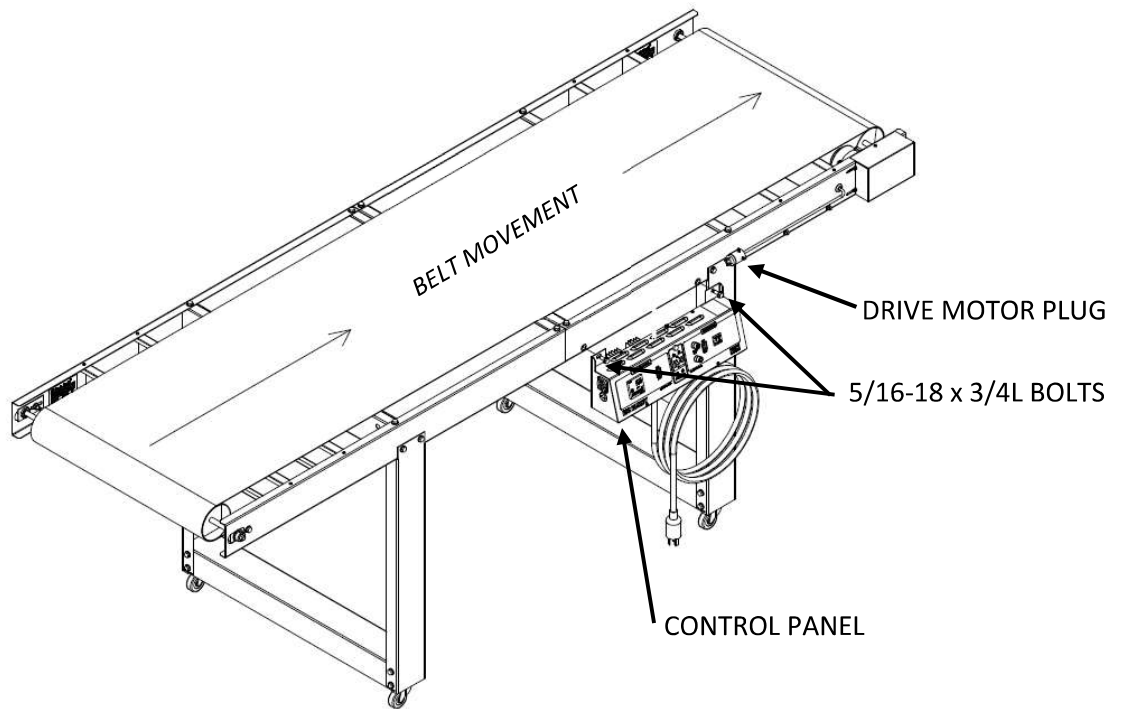

Figure 5
1. Use two **5/16-18 X 3/4L BOLTS** to fasten the **CONTROL PANEL** to the **CONVEYOR** (see **Figure 5**).